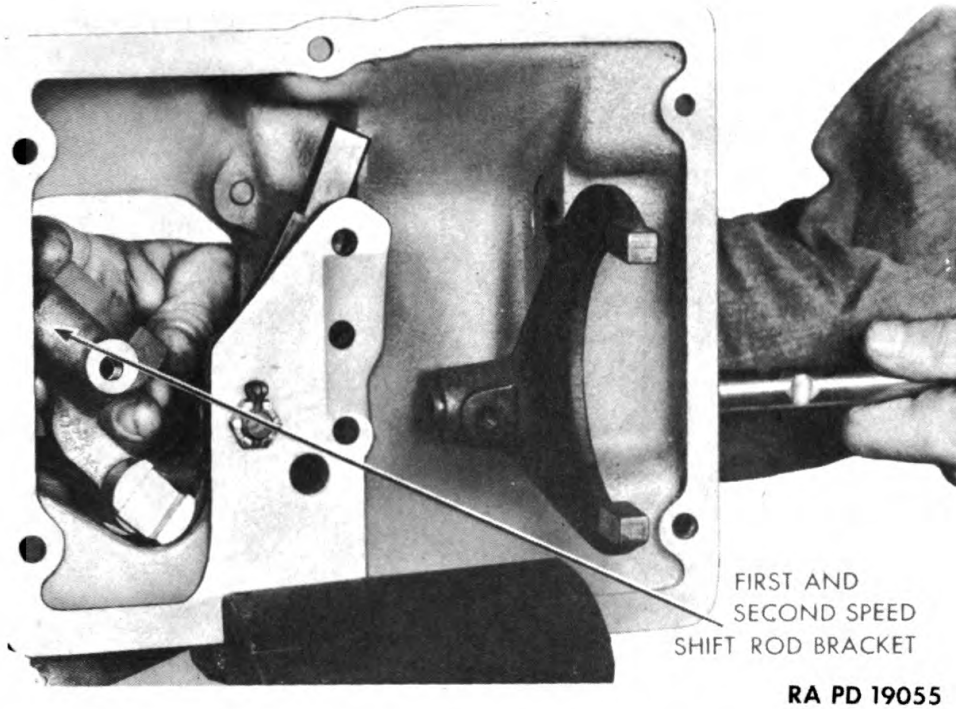

Figure 133 — Removing First and Second Speed Shift Rod Bracket
(3) **REMOVE FIRST AND SECOND SPEED SHIFT ROD, BRACKET, AND FORK.** Remove set screws from bracket and fork, and pull shift rod out through rear of housing until shift bracket is free from shaft, then lift out bracket (fig. 133). Continue pulling rod out until shift fork is free from rod, then lift out fork. Complete shift rod removal, and remove two shift rod interlock balls at rear and two at center. Remove shift rod poppet ball and spring.